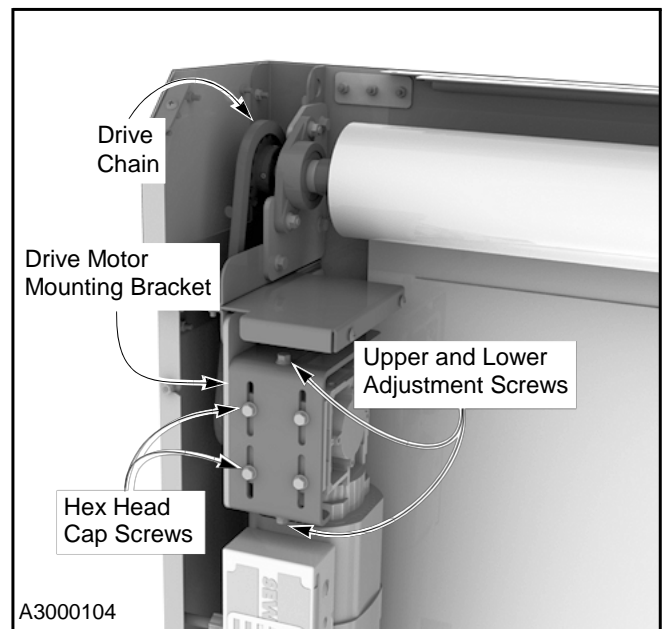

Figure 38
1. To adjust the tension, first loosen the four hex head cap screws located on the front of the drive motor mounting bracket (the cap screws secure the drive motor to the mounting bracket). (See Figure 38.)